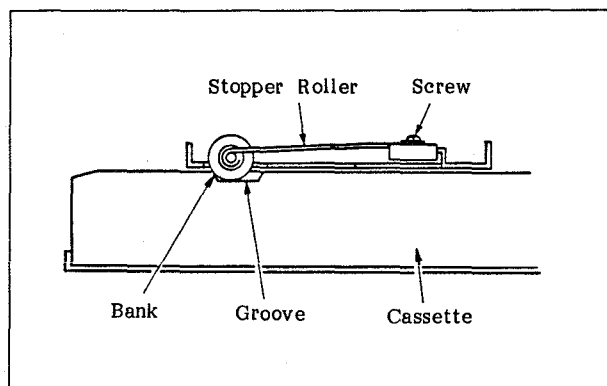

Fig. 6-30 Adjusting the Position of the Stopper Roller
5. Slide the stopper roller so that it touches the bank of the groove of the cassette as shown in Figure 6-30, and then fasten the stopper roller tightly.